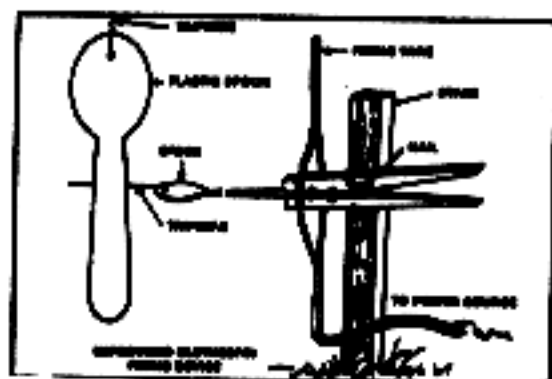
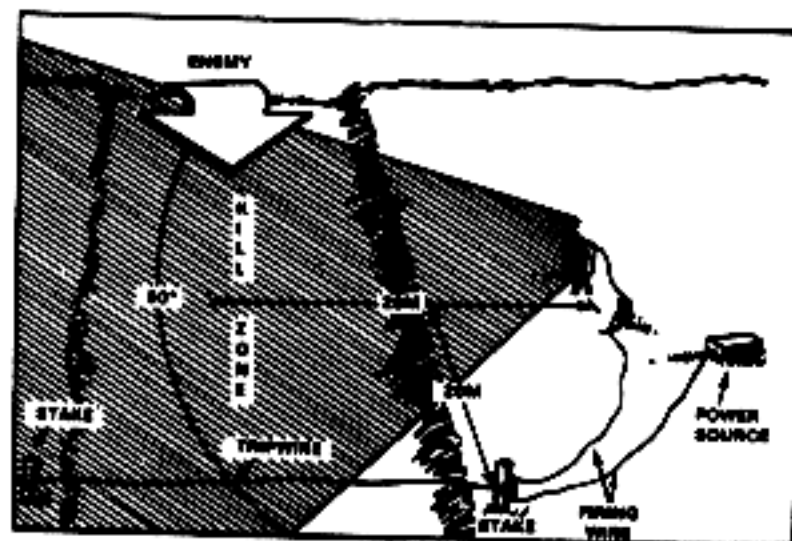

Figure 15-2. Complete firing device
Figure 15-3. Mechanical Ambush Layout
- (5) Run wire from stake on enemy side and attach spoon with wire attached to clothespin (see figure 15-2).
- (6) Emplace claymores from tripwire stake five meters apart.
- (7) Run firing wire with blasting cap attached to either claymore on extreme right or left side.
- (8) Emplace blasting cap into fuse well of claymore (secure wire to stake).
- (9) Prepare detonating cord with nonelectric blasting cap on each side of detonating cord and insert into fuse well of first claymore with electric cap already inserted and run detonating cord to successive claymores to complete the circuit.
- (10) Move back to power source (far enough away from back blast and attach firing wire to power source must be at least three volts of electricity). Mechanical ambush layout (figure 15-3).